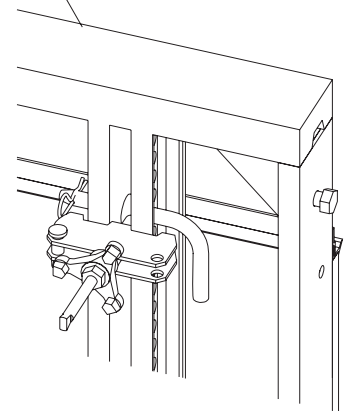

Fig. 9a
3. Insert brace connector in the perforated profile and peg out with locking pins. Fig.9a